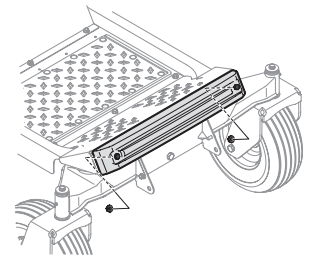

Figure 36
- Position the weight bar onto the foot rest and secure it in place with two 3/8" flange nuts (712-04065) from the same hardware pack. See Figure 36.